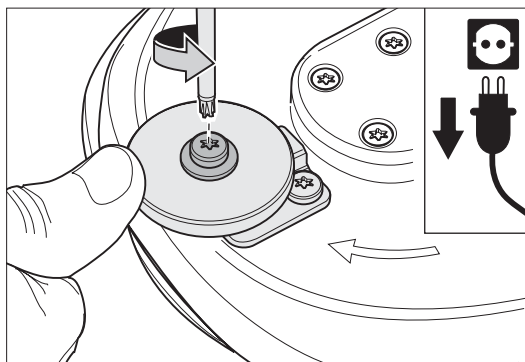

Fig. 51 Undo the screw in the middle of the wall-protecting roller ...
- 2 Use the universal spanner to undo the screw in the middle of the wall-protecting roller (Fig. 51).